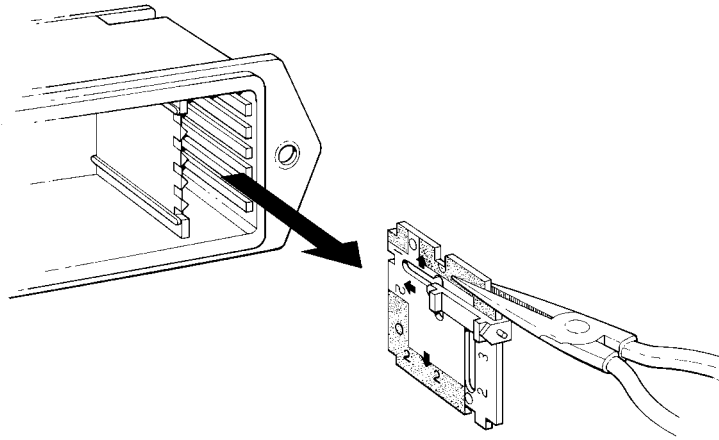

Figure 3-7. Removal of the Voltage Selector Card
- (c) Remove the voltage selector card using long nose pliers as shown in Figure 3-7.
- (e) Reinsert the card into the connector, with the edge showing the selected voltage leading and the printed numbers toward the center of the connector (see Figure 3-7). Ensure the card is fully seated.